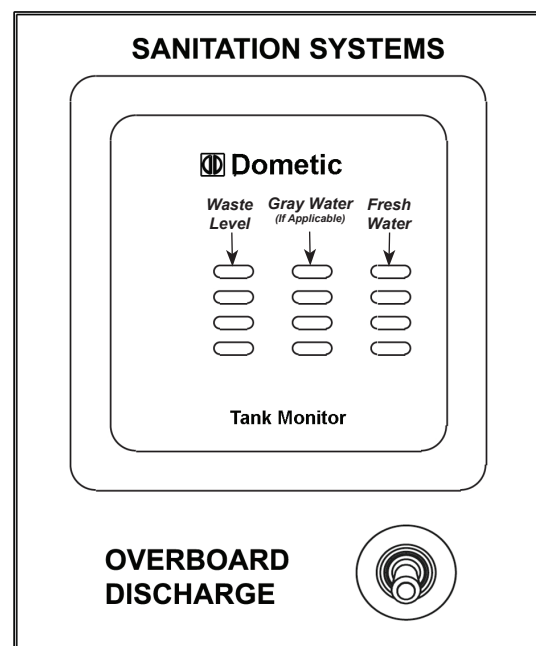

Figure J22: Overboard Discharge Switch
2. Turn ON the overboard discharge switch (if applicable) which is located on the 12VDC cabin panel. See Figure J22. Allow the discharge pump to run until the storage tank is empty. The sound of the pump's motor load and speed will change when the tank becomes empty.
The waste holding tank should be emptied when the waste level indicator reads full. The waste level indicator (if installed) is located on the 12VDC cabin panel or in the head depending on the model. See Figure J22. **DO NOT ALLOW THE WASTE TANK TO BECOME OVERFILLED.**